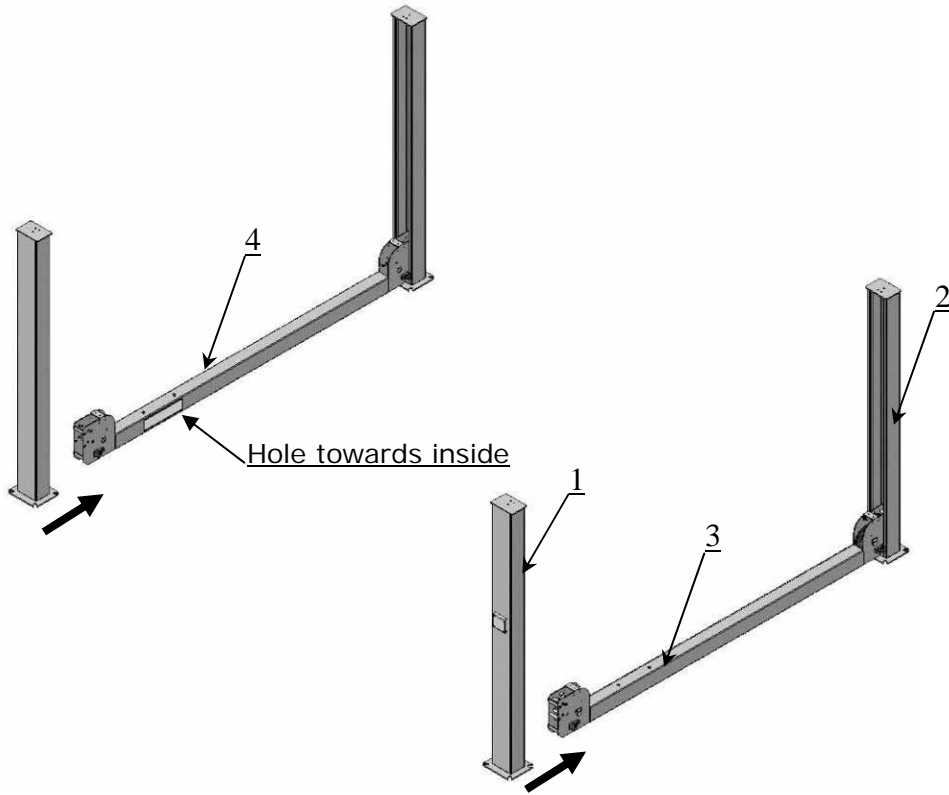
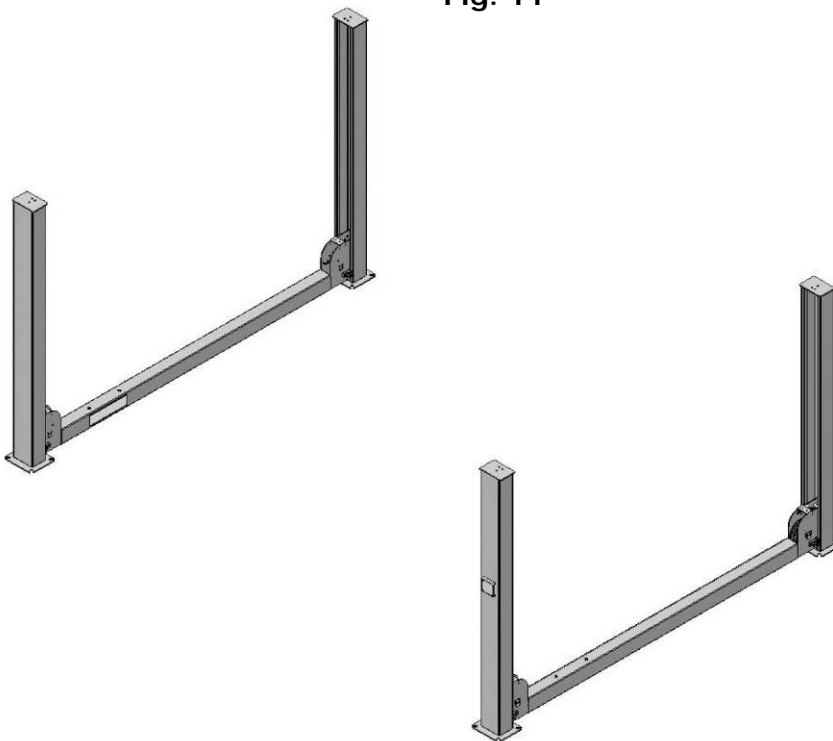

Fig. 11
Fig. 12
D. Install Cross Beams (See Fig. 11, Fig. 12). **Note:** *Install the runway platforms on the cross beams prior to drilling the anchor holes. This will help if measurements are incorrect. Do not fully tighten platform bolts.*